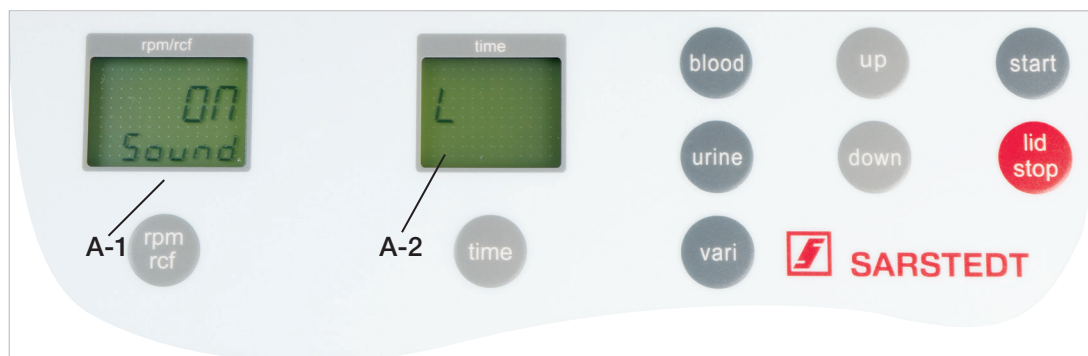

Figure 4
- All changes must be saved by pressing the “start” key (8). Visual confirmation is given with the text “store” in the “rpm/rcf” display field (A-1). The selections are only effective after confirmation.
Open the “Basic Settings” menu as described in 1.8.1. Then press the “time” key (3). The currently selected menu item flashes in the “time” (A-2) display field. Now select the letter “L” with the “up” (7) or “down” (7) keys. The text “on sound” is displayed in the “rpm/rcf” (A-1) display field. If the “rpm/rcf” key (2) is now pressed, the text “on” flashes and the tone can be switched off with the “up” (7) and “down” (7) keys. (See Figure 4).